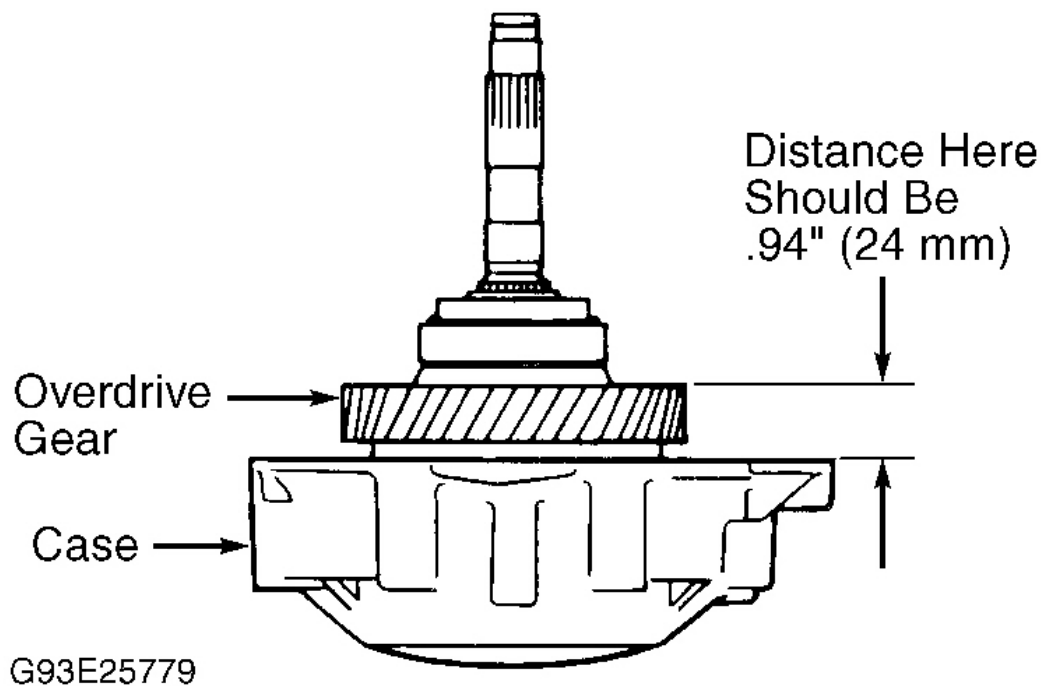

Fig. 55: Checking Distance Between Overdrive Gear & Case
9. While turning overdrive planetary gear clockwise, install gear on overdrive direct clutch. If overdrive planetary gear is properly installed, clearance between counter drive gear and overdrive case will be .94" (24.0 mm). See **Fig. 55** .